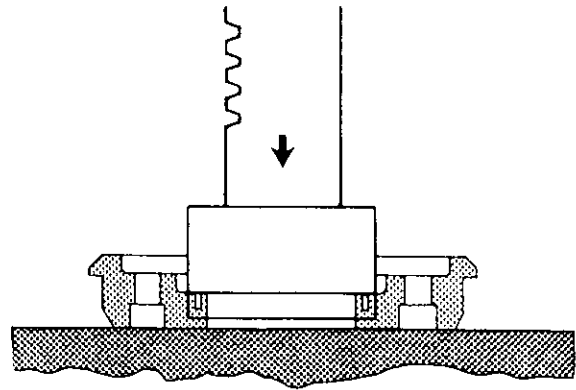

Figure 5.23
19. Press the facet drive assembly seal (43) into bearing cover (44), as shown in Figure 5.23.